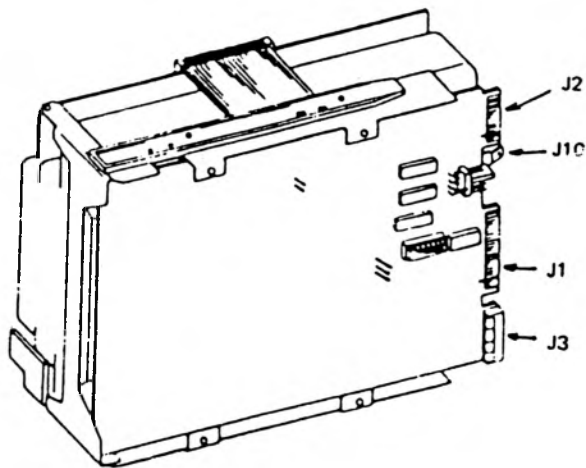

Figure 11
3. Coming from the side of the power supply are four similar harnesses, connect an unused harness to connector J3 on the hard disk drive as shown in Figure 11. This connector is also keyed to ensure that the connection is made the correct way.
5. Plug the unused connector on this cable to J1 on the hard disk drive as shown in Figure 11. The connector is keyed to ensure that the connection is made the correct way.
6. Find an unused ground wire (these are colored black and have one end already attached to the PC chassis) and connect it to the ground connector J10 on the hard disk drive as shown in Figure 11.
7. Supplied with this kit is a narrow ribbon cable. Plug one end to connector J2 on the hard disk drive as shown in Figure 11, connector J2 is also keyed to ensure that the connection is made the correct way.